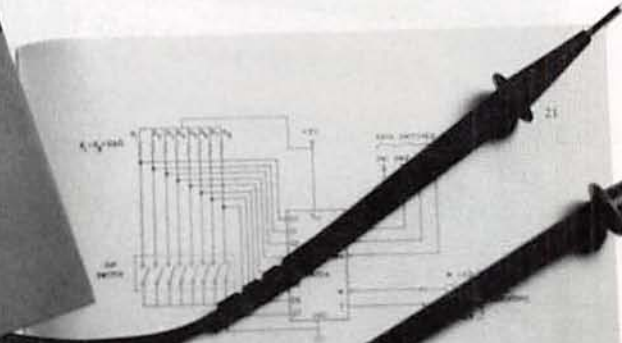
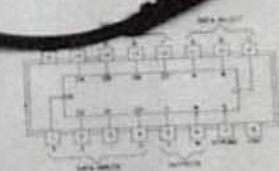

Fig. 16 Circuit for Experiment 2
Fig. 17 Pin diagram for 74151A
Figure 16 shows the circuit diagram for this experiment. You'll note that the numbers for the IC aren't included on the diagram. For those, you'll have to refer to Fig. 17, which shows pertinent 74151A data. For this book experiment, you'll use an eight-pole DIP switch in conjunction with 10 k Ω and 100 Ω resistors. For the Set's and Strobe lines, finally, you'll use the trigger line switcher.
2. Connect the eight 10 k Ω resistors to the DIP switch as shown in Fig. 16. Connect the opposite end of each of these resistors to the 100 Ω resistors. The second terminal of each switch is to be connected to trainer ground.
4. Next, connect the trainer data switches to the Set's and Strobe lines on the IC using Fig. 17 as a guide. Finally, use SW1 through SW4 to connect the trainer T LED to the Y output, and connect the W LED to the W output.